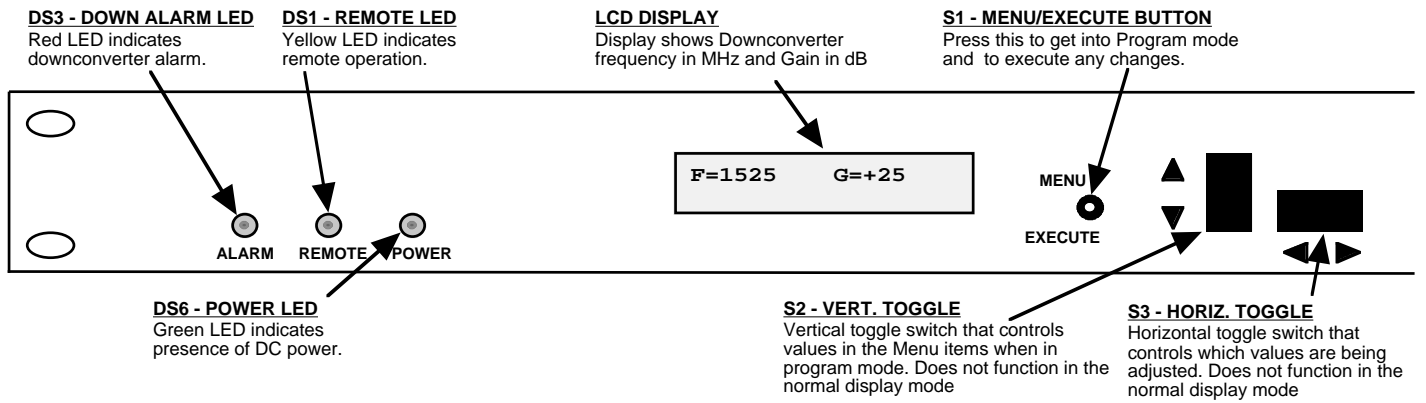

FIGURE 2.3 2016-02 Front Panel Controls and Indicators
6. Be sure DS6 (green, DC Power) is on and DS3 (red, Alarm) is off (Figure 2.3).
Alarm indications appear on the LEDs (see figure 2.3).